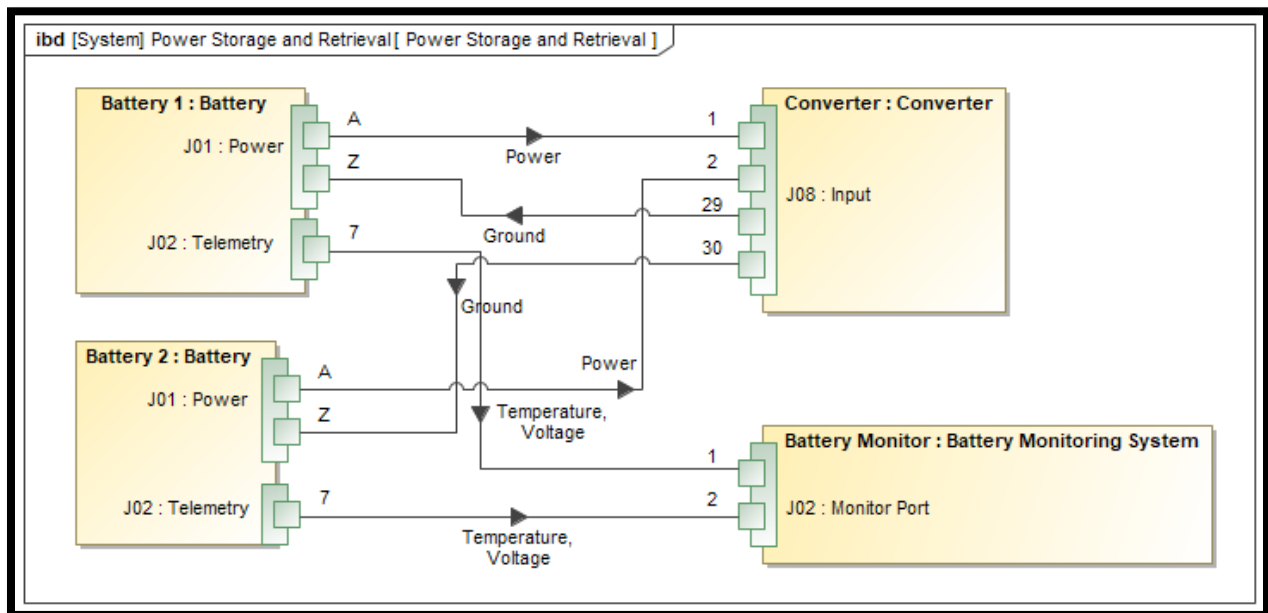

Figure 10 Example Results of Import – Nested Ports
6. When satisfied with the status of the data mapping and other import choices, the user generates the Connectors, Interface Blocks, Item Flows, and Signals in the model by pressing the “Import to Model” button in the “Connectors” row as seen in Figure 9. A progress bar displays the progress of the import and if any connectors failed to import, the user is asked if they would like to save a spreadsheet containing the list of connectors that failed with a description of each failure somewhere. Otherwise, the progress bar is closed and the imported model elements can be observed in the model as seen in Figure 10.